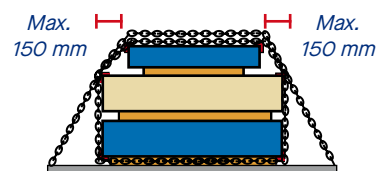

Fig. 4: Packs may be different widths, but wider pack must be on the bottom.
- Wider packs **MUST** be placed below narrow packs. (Fig. 4)
- Maximum nominal pack width difference **MUST NOT** exceed 300 mm for any stack. (Fig. 4)